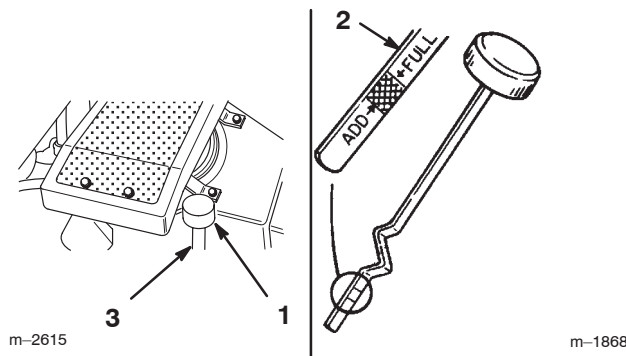

Figure 20
2. Clean around the oil dipstick (Fig. 20) so dirt cannot fall into the filler hole and damage the engine.
3. Unscrew the oil dipstick and wipe the metal end clean (Fig. 20).
4. Slide the oil dipstick fully into the filler tube, do not thread onto tube (Fig. 20). Pull the dipstick out and look at the metal end. If oil level is low, slowly pour only enough oil into the filler tube to raise the level to the full mark.
5. Slowly pour approximately 80% of the specified oil, page 26, into the filler tube (Fig. 20).